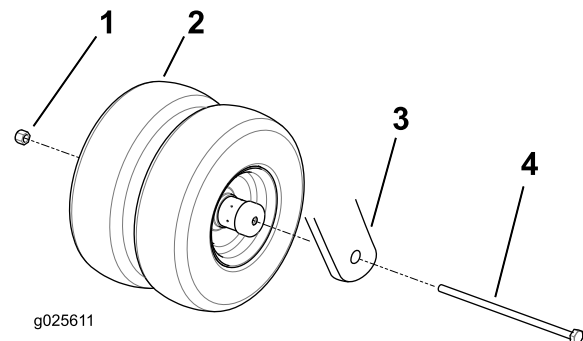

Figure 1
6. Install the new wheel assembly with the bolt (1/2 x 13 inches) and locknut (1/2 inch) as shown in Figure 1.